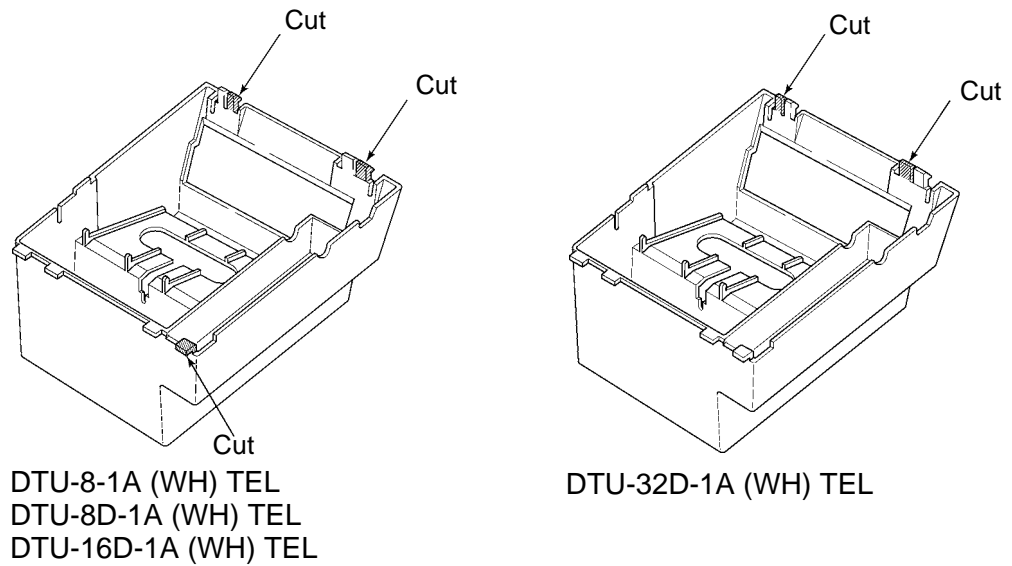

Figure 6-26: Removing the Tabs from the WMU-UA Unit
3. Remove the tabs from the WMU-UA Unit as shown in *Figure 6-26: Removing the Tabs from the WMU-UA Unit*. (Tabs removed depends on the Multiline Terminal type.)